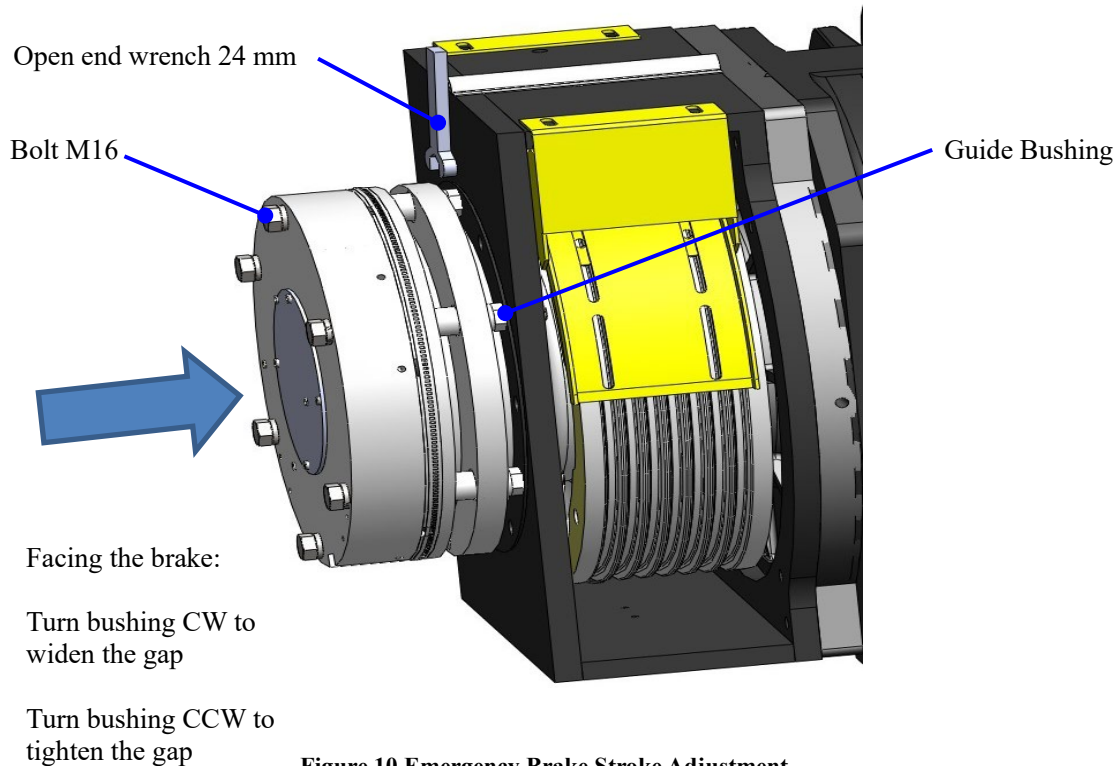

Figure 10 Emergency Brake Stroke Adjustment
1. Loosen the bolt M16 with the largest gap one full turn using the open end wrench (24mm). See Figure 10.